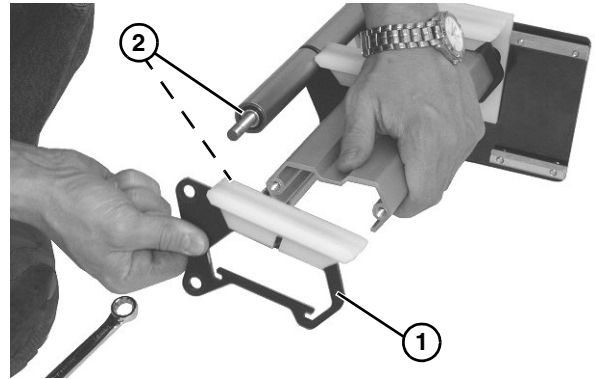

Figure 44
7. Slide the support plate (**Figure 44, item 1**) off of both axle shafts.
8. Remove washer (**Figure 44, item 2**) off of lower and upper axle shafts.